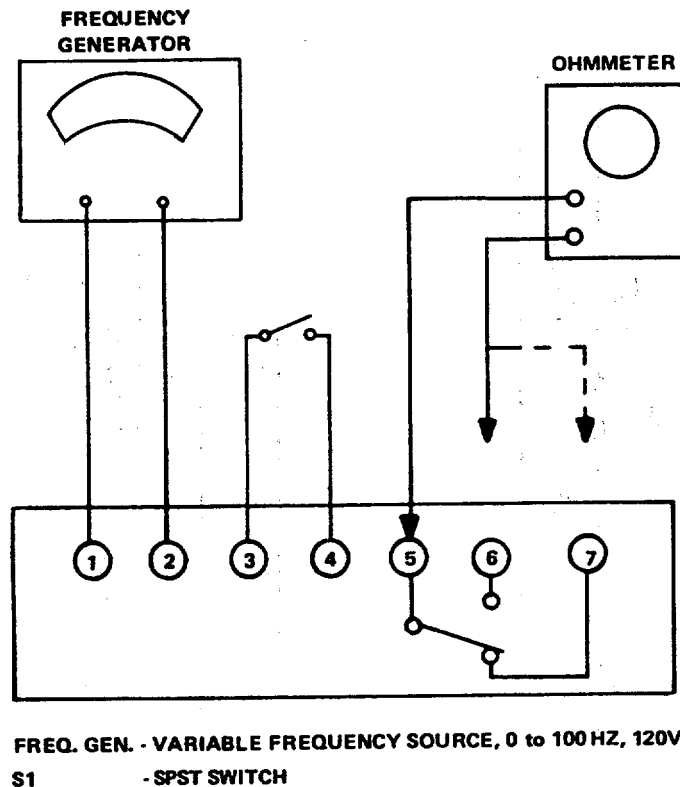

Figure 15-11. Underfrequency and Overfrequency-Relay, Test Setup
- (1) Connect underfrequency relay as shown in figure 15-11. Switch S1 closed.
- (2) Adjust variable frequency generator for 50 Hz output.
- (3) With ohmmeter connected between terminals 5 and 7, adjust frequency generator to 48.5 Hz. Relay should trip as frequency is decreased. Ohmmeter will no longer show continuity.
- (4) Open switch S1. Adjust frequency generator for 60 Hz output.
- (1) Connect overfrequency relay as shown in figure 15-11.
- (2) Adjust variable frequency generator for 50.0 Hz output. Close switch S1.
- (3) With ohmmeter connected between terminals 5 and 7, adjust frequency generator to 51.5 Hz (51 to 52). At this point, relay should trip. Ohmmeter will no longer show continuity.
- (4) Open switch S1.
- (5) Set frequency generator output to 60.0 Hz and connect ohmmeter between terminals 5 and 6; ohmmeter should indicate continuity. Increase frequency generator output to 61.8 Hz; relay should trip at 61.8 Hz (61.3 to 62.3) and ohmmeter indicate infinite ohms.
- (6) Turn adjustment screw clockwise to raise trip point.
b. Replacement. The overfrequency relay (9) is removed and replaced as follows: